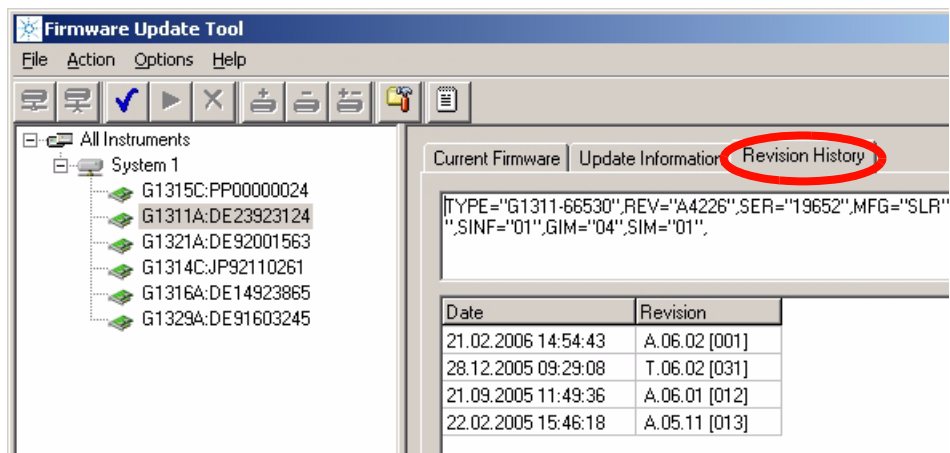

Figure 34 Specific module is selected - Revision History Information screen
- 3 Select the **Revision History** tab. This window shows details on the used main board and the update history in the module, see Figure 34.